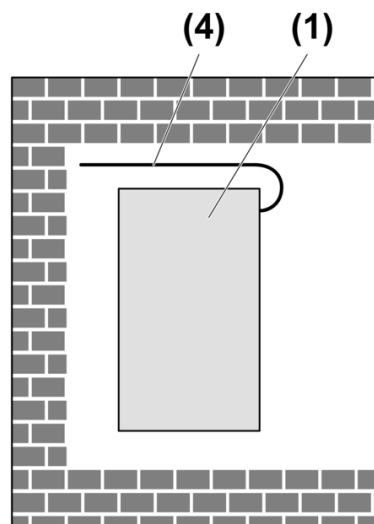

Figure 4
- Lay the antenna (4) stretched out freely if possible (Figure 4).